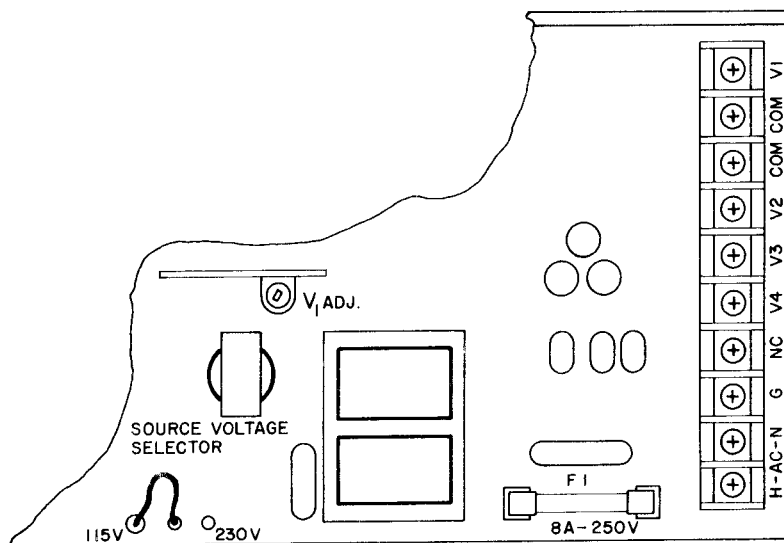

FIG. 2-1 EFX 210T POWER SUPPLY, SIMPLIFIED TOP-VIEW.
- F) OUTPUT ADJUSTMENT RANGE: ± 10%, Principal Output only; Auxiliary Outputs are fixed. The location of the output adjustment rheostat is shown in Section II, FIG. 2-1.
2-7 All EFX power supplies can be operated on a-c, single phase power lines (47 to 440 Hz). The units are normally delivered for operation on a 100 to 130 a-c source. For operation on a 200 to 260V a-c source, remove the wire jumper from the "115" position and reconnect it to the "230" position, see FIG. 2-1.
### 2-8 FUSE CHANGE (See FIG. 2-1)
2-9 The a-c fuse is located on the printed circuit board and is clearly marked with fuse number and value. See FIG. 2-1.